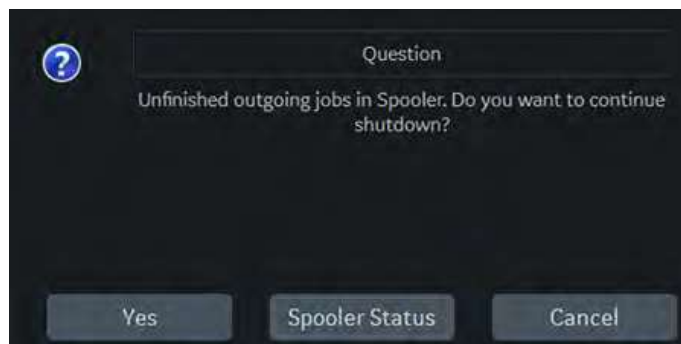

Figure 3-19. Confirm Shutdown
**NOTE:** *If a system shutdown is initiated while the system is still processing an incoming or outgoing DICOM job, a dialog box appears, notifying the user to confirm shutdown, check the spooler status or cancel the shutdown (see Figure 3-19).*